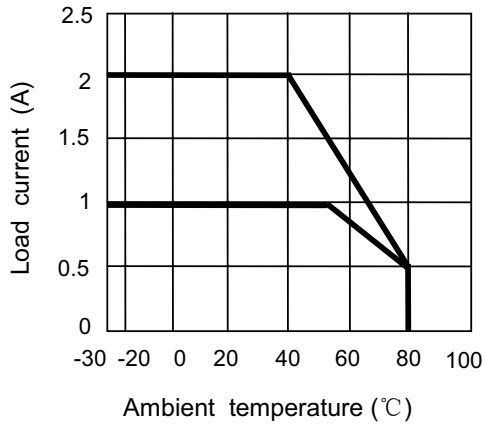

Figure 1 Maximum load current vs. ambient temperature
Notes: (1) All parameters at 25 °C. (2) See figure 1.